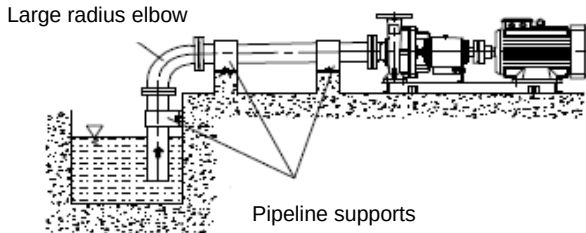

Fig.5.4a Pump in suction configuration
- Pipes should be supported very close to the pump (Fig. 5.4a and 5.4b). Make sure that pipeline loads and tensions are not transferred to the pump. Thus, after pipeline installation, loosen the suction and discharge flange bolts to prevent stress transfer from the line to the pump.